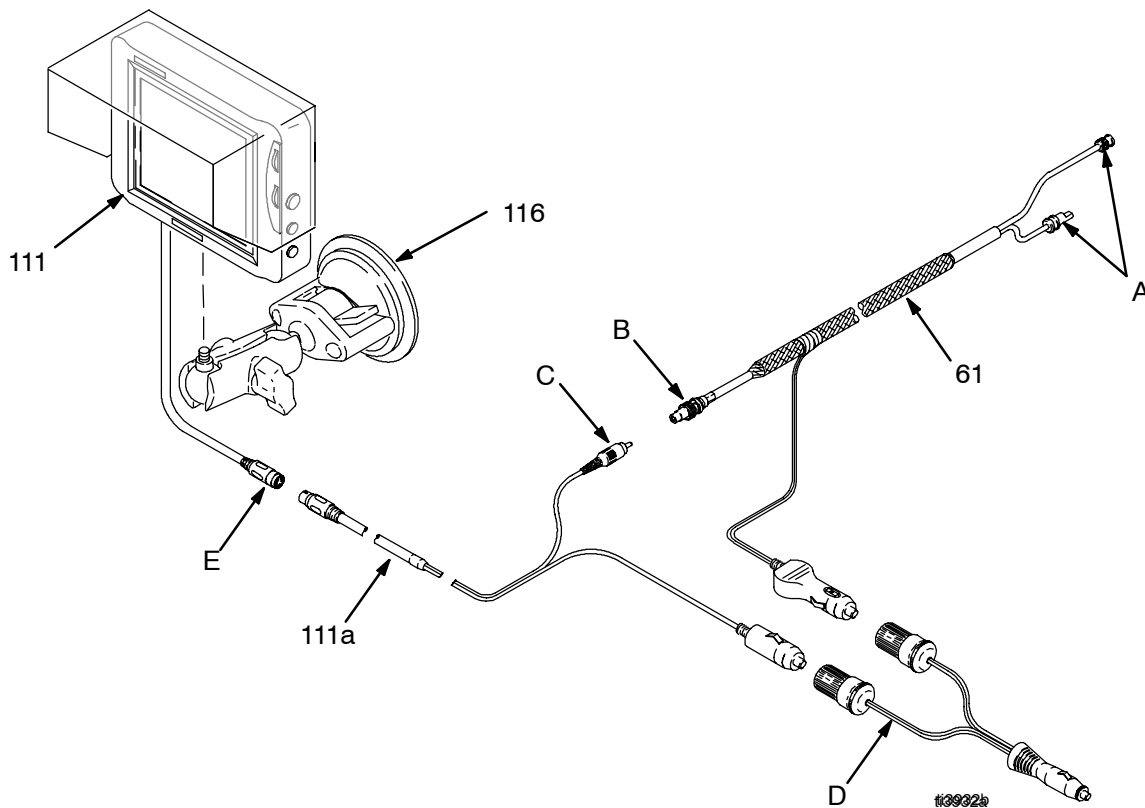

Fig. 3
1. Mount video monitor (111) in truck cab in a position that is easy to view. Mount it level with dashboard but not obstructing forward vision. Monitor has mounting bracket or use supplied mounting bracket (116). Fig. 3.